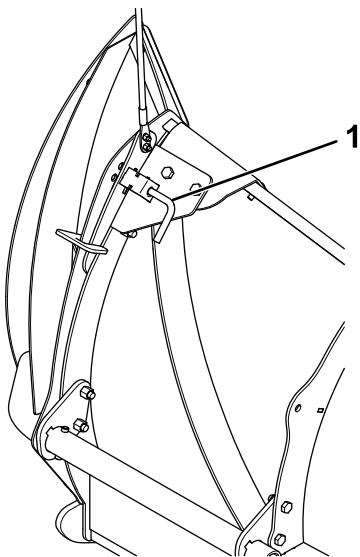

Figure 7
- Rotate the plow wing forward and lock it in place with the spring pin (Figure 7).